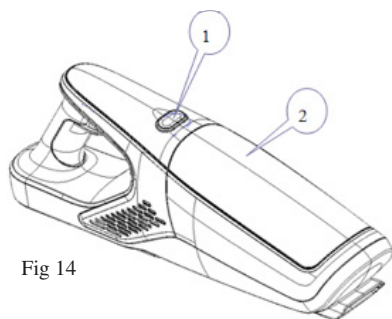

Fig 14
3. Detach the accessory from the Sub unit, then press down the Dust cup release button (1) to remove the Dust cup (2) from the Sub unit (see Fig.14).